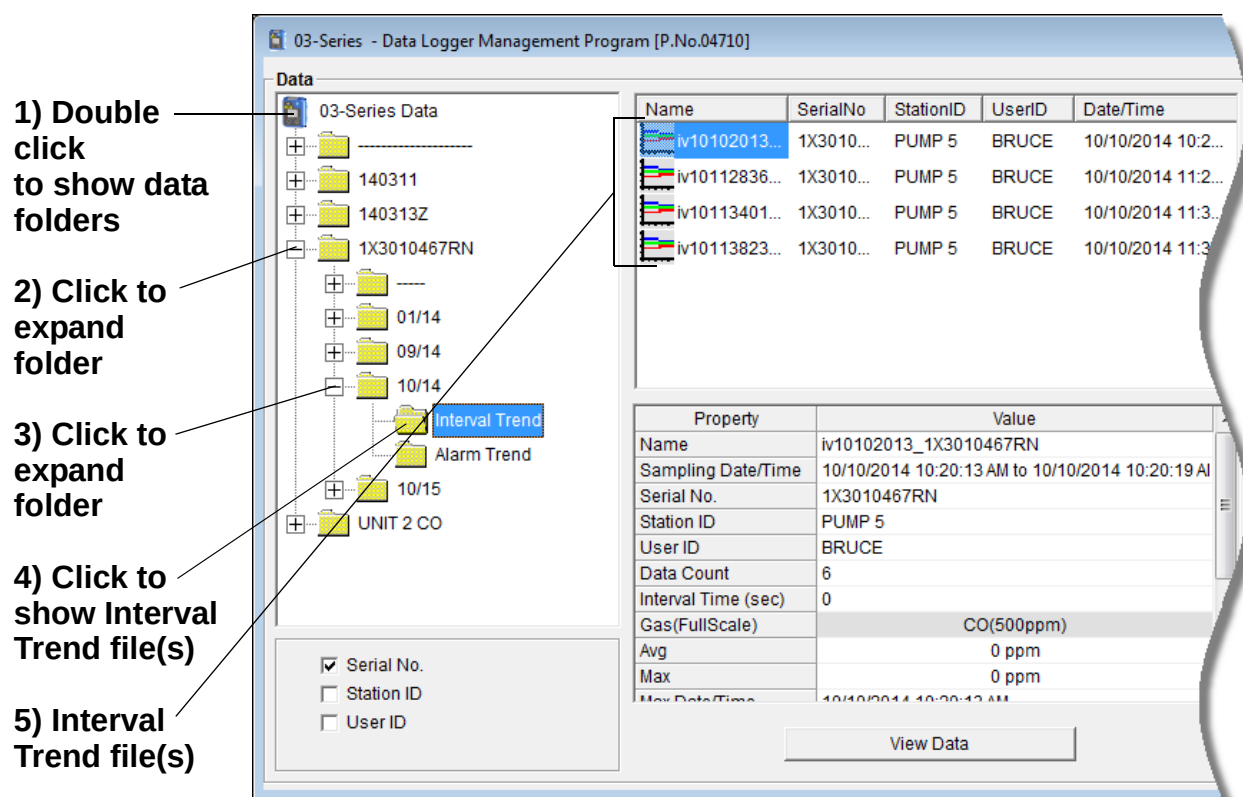

Figure 33: Data Window - Selecting Interval Trend Data Files
- If you click the **Summary** button, the Data Window will split into two frames, one above the other, with the data table in the lower frame and the summary information shown in the upper frame. The summary information is the same as the one shown in the lower right frame in Figure 33. To return to the one frame format, click **Summary** again.
NOTE: The data count shown when you have selected an interval trend data file, as in Figure 33 above, can be more than five if you have events, such as the 03 Series going into and out of alarm, but you may not have five scheduled data points.
- If you click the **Summary** button, the data window will split into two frames, one above the other, with the graph in the lower frame and the summary information shown in the upper frame. The summary information is the same as the information shown in the lower right frame in Figure 33. To return to the one frame format, click **Summary** again.